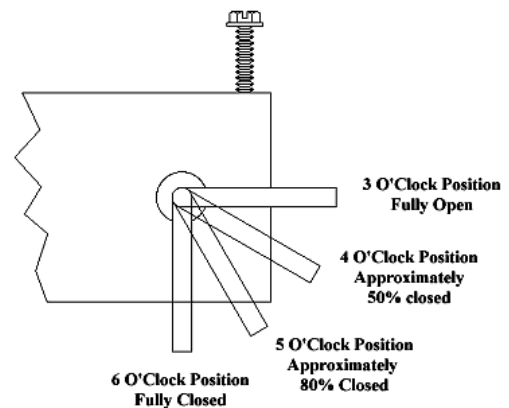

Figure 5
The purpose of this damper is to adjust combustion airflow to match the characteristic of each specific air inlet and chimney configuration. There is a setscrew in the damper (*shown in Figure 5*) and the damper has been preset at the factory. This setting will most likely work for 90% of the most common installations. Long horizontal runs might need the damper opened. Tall vertical runs might need the damper to be closed a little, etc. To adjust the damper, use the setscrew to make the adjustments. To make an adjustment turn the screw $\frac{1}{2}$ turn clockwise to open the damper or $\frac{1}{2}$ turn counter clockwise to close the damper. Remember to use the damper handle to bring the damper up to the screw. The damper will not close by itself. After making an adjustment wait at least 15 minutes to see how the burn pot reacts to the change. **Adjusting the damper during the break in period is very**
- d. Use the “scraper” provided to move the burning pellets to one side of the grate, leaving the ash in the bottom of the grate. (See Fig 5 & 6)